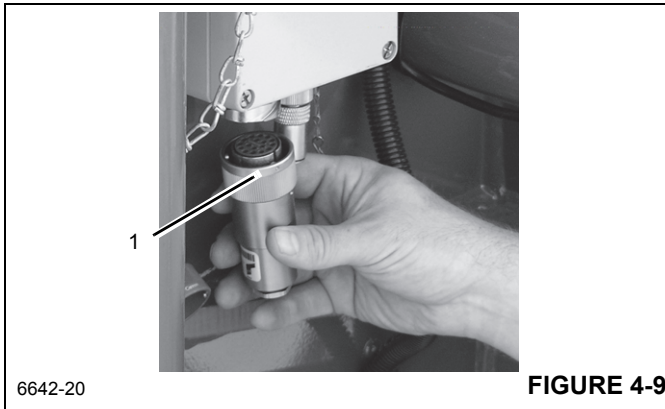

FIGURE 4-9
- b. Remove dummy plug (1) Figure 4-9 from junction box on boom nose.